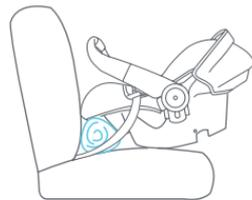

Fig. 54-1
- If the Safety Seat is too upright, place a tightly rolled towel (Fig 54-1), or pool noodle, under the foot end of the Safety Seat until the level indicator bubble is centered between the lines for occupants 4-22 lbs (Fig 54-2). Re-tighten the vehicle seat belt as instructed in section **Securing the Safety Seat or Base in the Vehicle Page 39.**